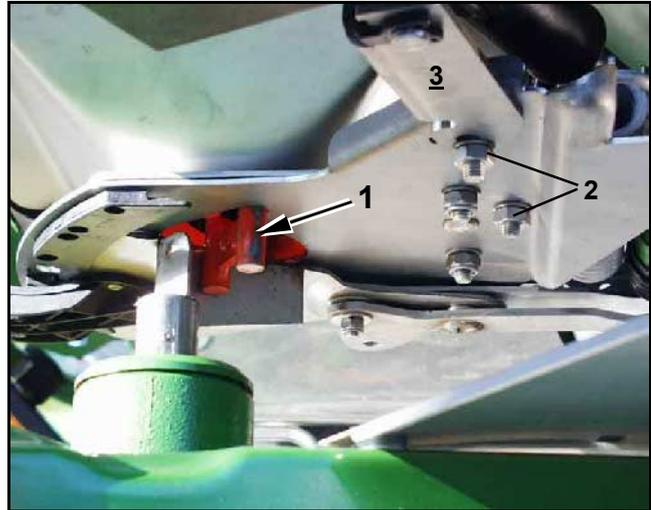

Fig. 2
- The setting gauge (Fig. 2/1) must easily fit through the now released discharge opening diameter. (Special option, Order-No.: 915018).
- Slacken the fixing bolts (Fig. 2/2) of the setting motor console (Fig. 2/3).
- Insert the setting gauge (Fig. 2/1) into the discharge outlet opening.
- Swivel the setting motor console (Fig. 2/3) towards the setting gauge and retighten the fixing bolts (Fig. 2/2).